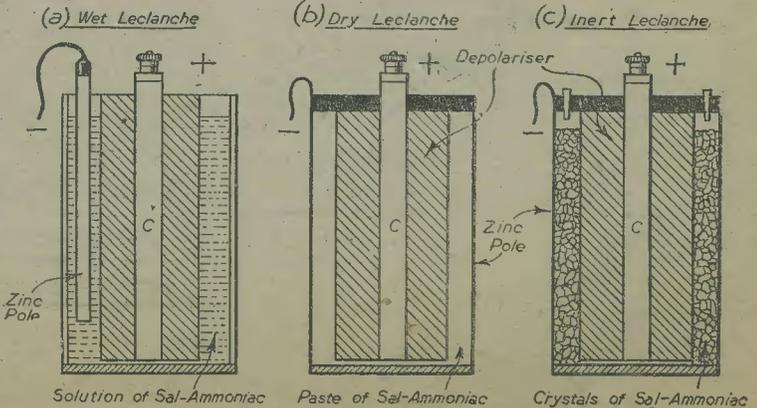

Fig. 9.—Sectional diagrams of Leclanché cells.
The Leclanché cell (see Figs. 9 a, b and c), is composed of: (1) Positive pole—carbon; (2) Negative pole—zinc; (3) Electrolyte—ammonium chloride or sal ammoniac; (4) Depolariser—manganese dioxide. The E.M.F. of a Leclanché cell is approximately 1.5 volts.
It is used for H.T. batteries, flash-lamp cells, gas-lighters, etc. Fig. 9 (b).
This cell can withstand long storage or use in hot climates. As the cell's name implies, it is "inert" until "activated" by the addition of water. Fig. 9 (c).